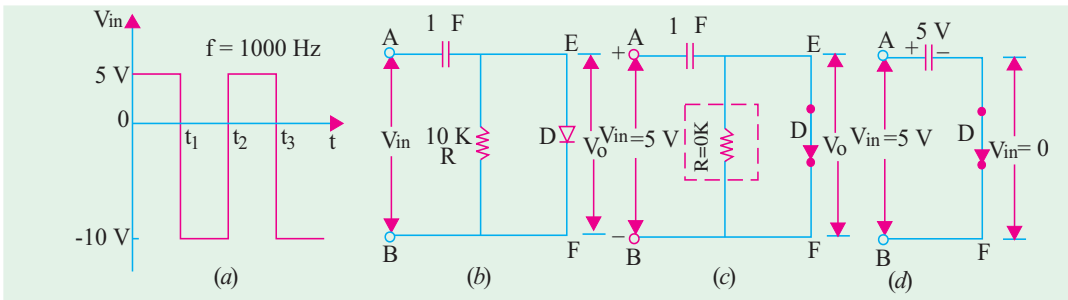

Fig. 52.41
**Example 52.23.** The input signal of Fig. 52.41 (a) is applied to the clamper circuit shown in Fig. 52.41 (b). Draw the waveform of the output voltage  $V_o$ . How will it change if  $R$  is made  $100 \Omega$ ? (Electronic circuits, Bangalore Univ.)
When positive half-cycle of the input signal voltage is applied to the clamper circuit, its terminal  $A$  becomes positive with respect to terminal  $B$ . Hence,  $D$  acts like a short as shown in Fig. 52.41 (c). A steady positive voltage of 5 V remains applied to  $A$  for 0.5 ms. At the same time,  $R$  is also shorted out [Fig. 52.41 (c)] because it is in parallel with  $D$ . Hence,  $C$  will rapidly charge to 5 V. Being across a short,  $V_o = 0$  during positive half-cycle as shown in Fig. 52.41 (d).